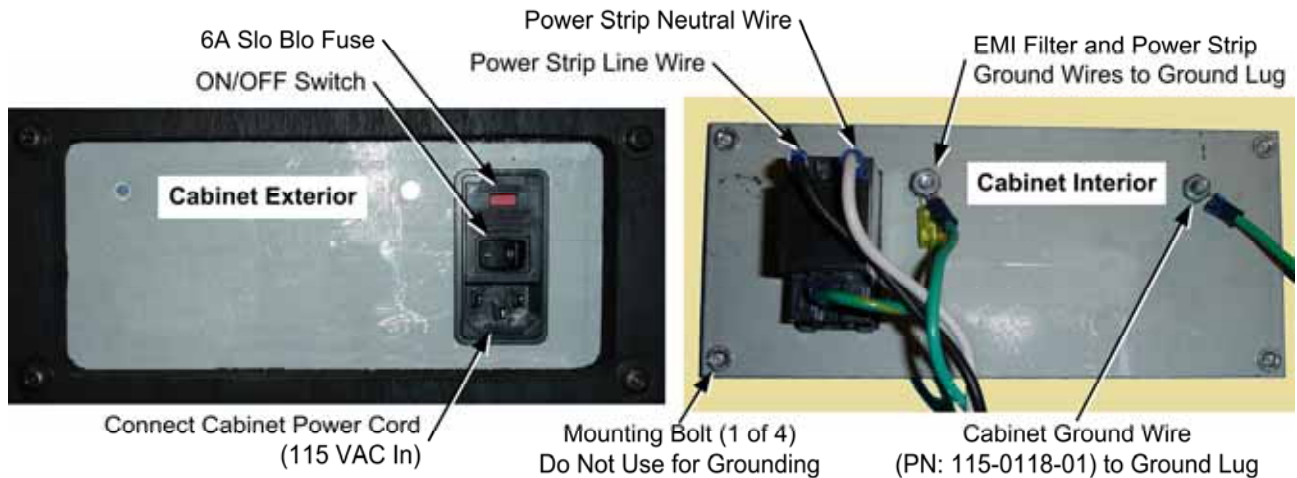

Figure 14. AC Power Plate
6. Replace the power strip with an appropriate unit from GLOBAL VR (part # 49-0963-40). Do not attempt to use a different power strip. Be sure to connect each wire to the correct terminal as shown in Figure 14.